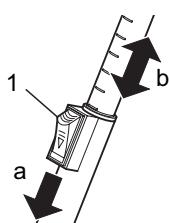

Fig. 4
4. Adjust the length of the telescopic tube. To do this, press the telescopic tube lock (Fig. 4/1) forwards (Fig. 4/a). Then pull the telescopic tube by the handle (Fig. 4/1) to the desired length (Fig. 4/b). To lock it, release the telescopic tube lock when you let go. You will hear an audible click.